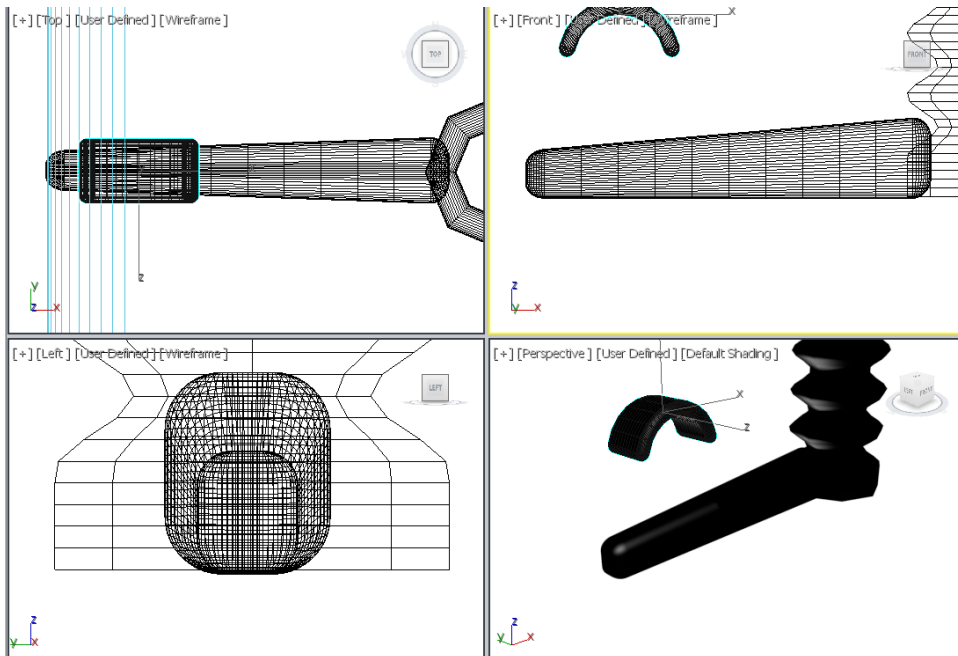

Figure 3-41 The *box01* geometry displayed in viewports after applying the **Bend** modifier
8. After applying the **Bend** modifier, *box01* is displayed, as shown in Figure 3-41.